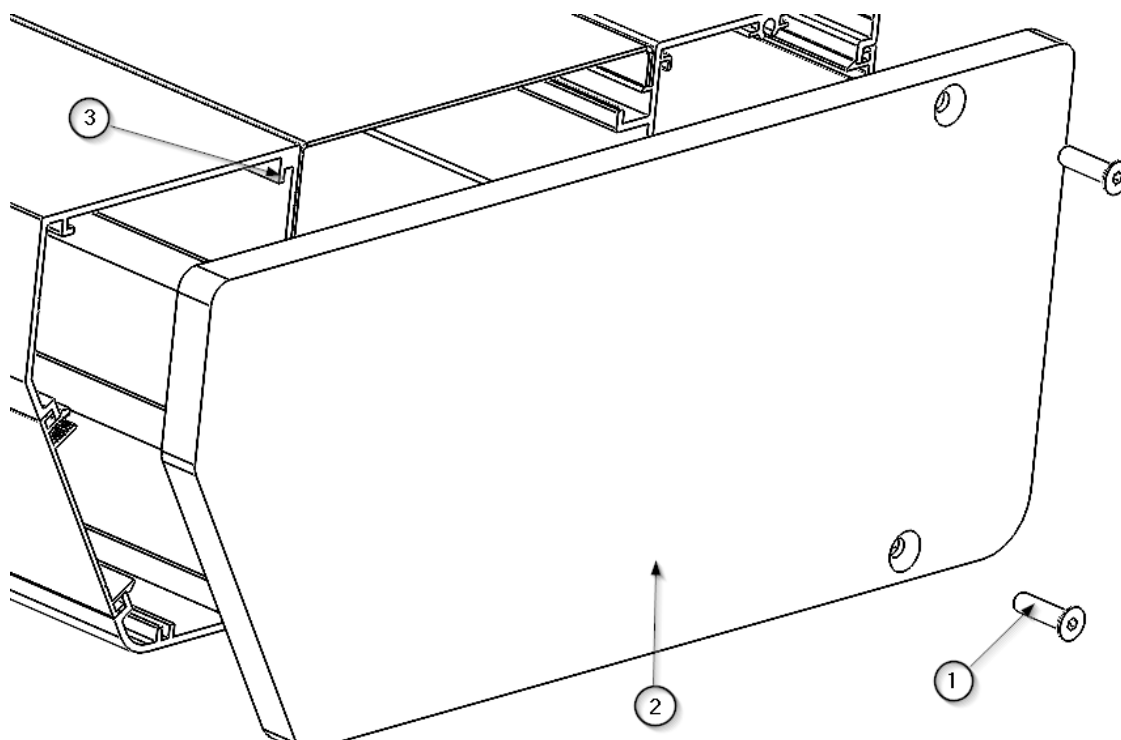

Fig. 9 Disassembly / assembly of end caps on main body TOR
- Using an Allen tool, remove the 2 M4 x 16 screws ① and release the side tabs ③ from the side panel ②, as shown in figure 9.